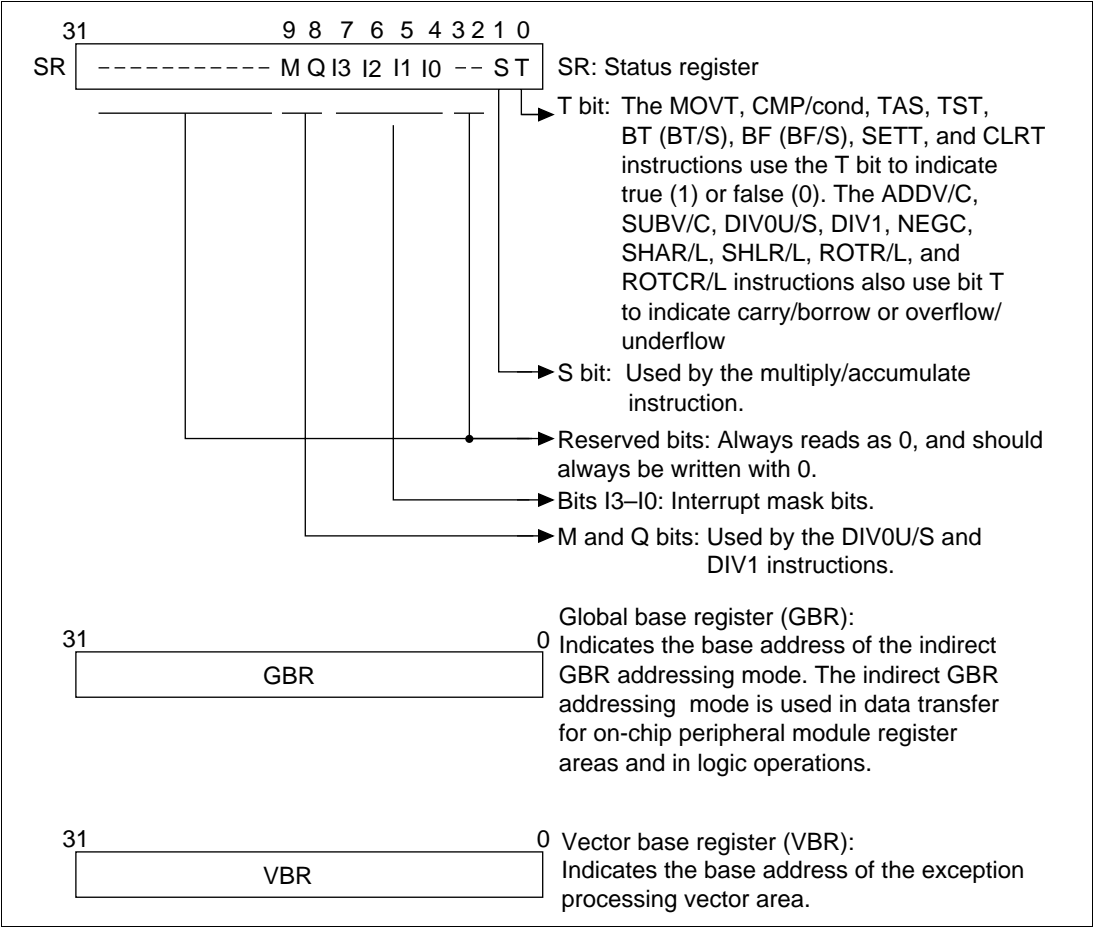

Figure 2.3 Control Registers (SH-1 and SH-2)
The 32-bit control registers consist of the 32-bit status register (SR), global base register (GBR), and vector base register (VBR) (figure 2.3). The status register indicates processing states. The global base register functions as a base address for the indirect GBR addressing mode to transfer data to the registers of on-chip peripheral modules. The vector base register functions as the base address of the exception processing vector area (including interrupts).